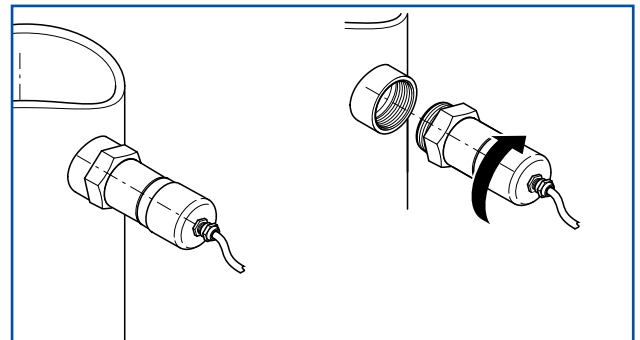

Fig. 3: Thread mounting
- in a G 1½" threaded connector (fig. 3)